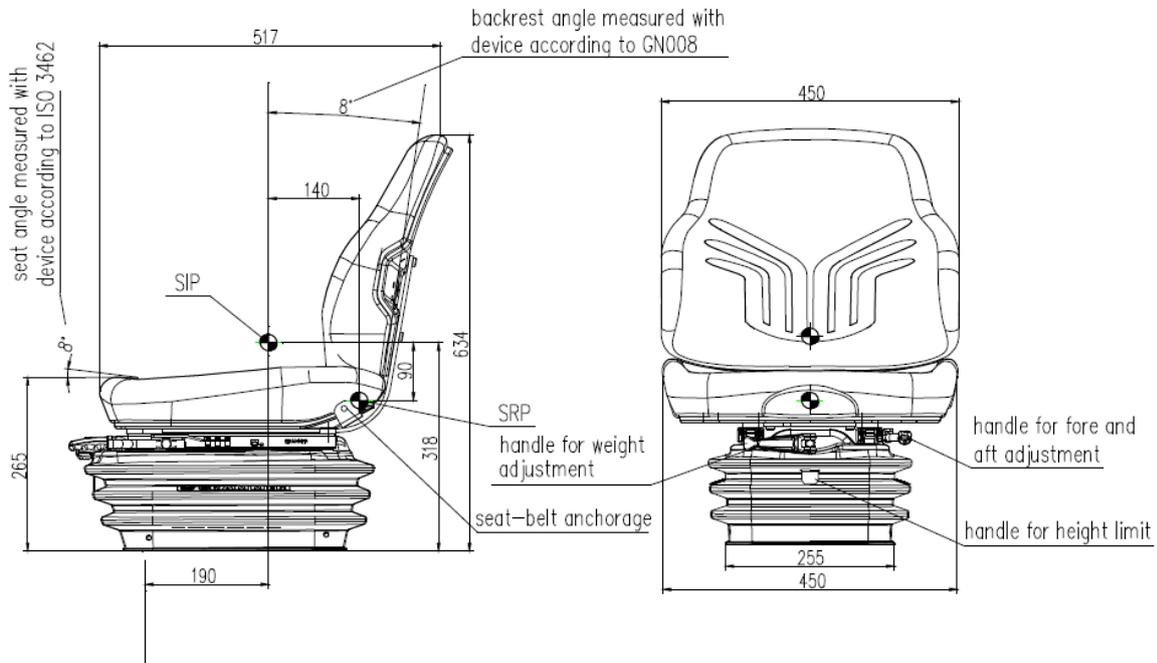

Fig. 3-13 Adjustment of Driver's Seat
1. Driver's seats of TE series tractors can be adjusted forward and backward. During adjustment, pull the adjustment handle below the left side of the driver's seat outwards (as shown in the Fig. 3-13) and move the driver's seat forward or backward at the same time. After adjusting it to the required position, release the adjustment handle.